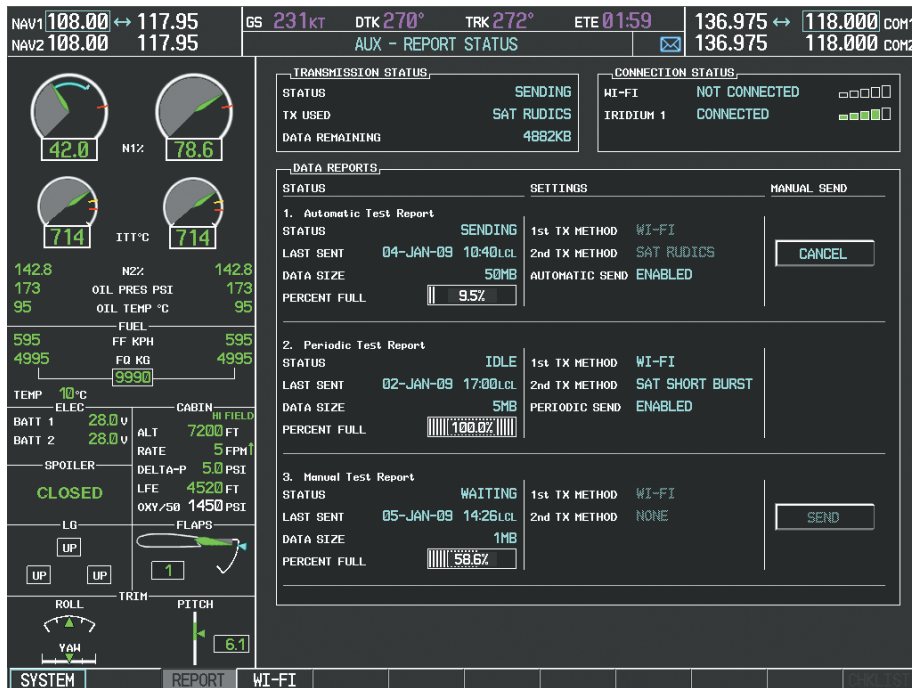

Figure 8-76 Report Status Page
- 3) If necessary, select the **REPORTS** Softkey. The AUX-REPORT STATUS Page is now displayed as shown in Figure 8-76.